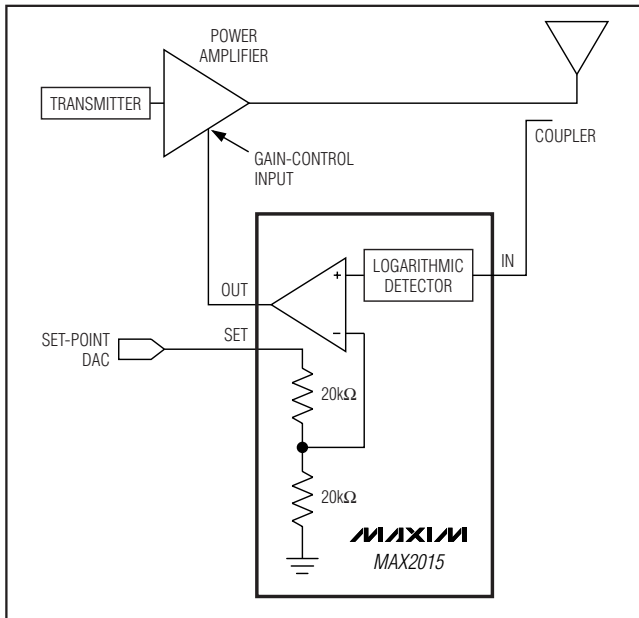

Figure 2. MAX2015 in Controller Mode
For operation in controller mode, remove R1 and set R6 to  $0\Omega$ . Use a DAC or external precision voltage supply to apply the set-point voltage to the VSET SMA connector. RF\_IN is connected to the RF source (power amplifier (PA) output through a directional coupler) and VOUT is connected to the gain-control pin of the PA (see Figure 2).